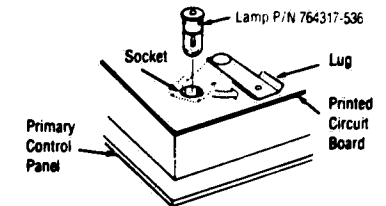

Figure 7-6. LAMP REPLACEMENT.
- a. The light bulbs are removed by moving the retainer aside and lifting out the bulb. See Figure 7-6.